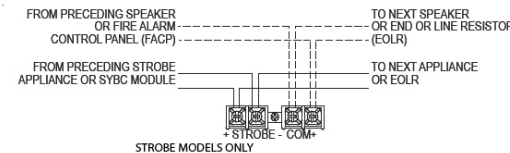

Figure 1: Strobe Wiring
- Connect speaker wires to common and positive of terminal block and select the power tap terminal for 1/8W, 1/4W, 1/2W, 1W or 2W; 25V or 70V as required (see Figures 1, 2, 3, 4 and Table 4). Each doubling of rated Watts increases sound output by 3 dBA.